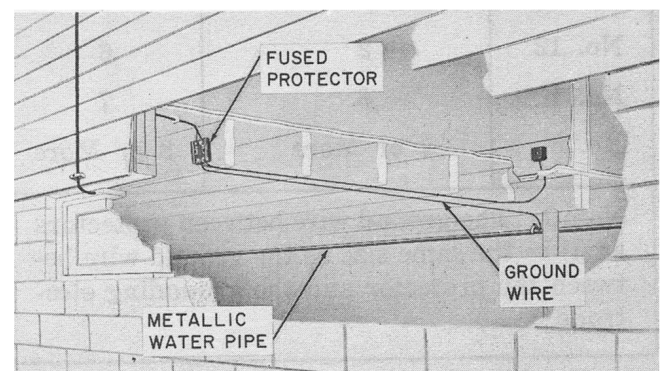

Fig. 3—Ground Wire Run—Fused Protector
1.10 If it is necessary to use a fused protector, the length of drop wire indoors should be as short as possible. The ground wire run should be short, straight, and if possible a continuous piece of wire, (Fig. 3).